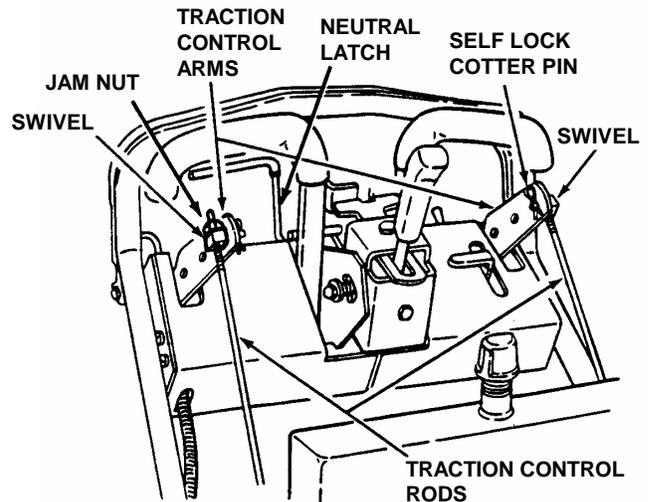

FIGURE 3.8
**STEP 2:** Place traction control levers in the Neutral position and engage Neutral Latch. See Figure 3.8.
**STEP 4:** Disconnect the swivel from the right and left traction control arms and loosen swivel jam nuts. Refer to Figure 3.8.